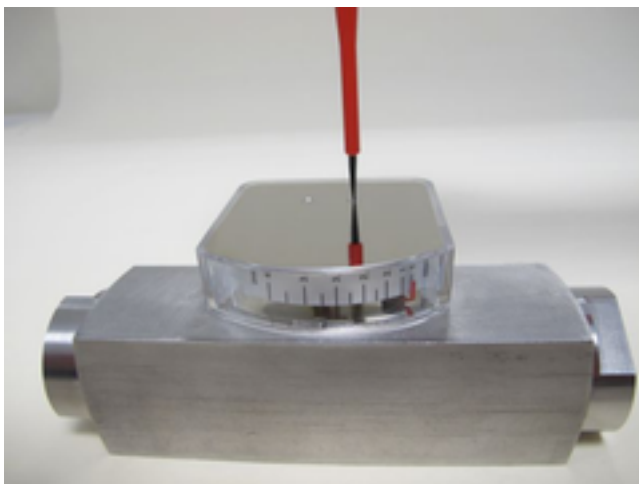

Fig. 43: Loosen the display cover plate
1.  Loosen fixing screws on the display cover plate (Fig. 43)